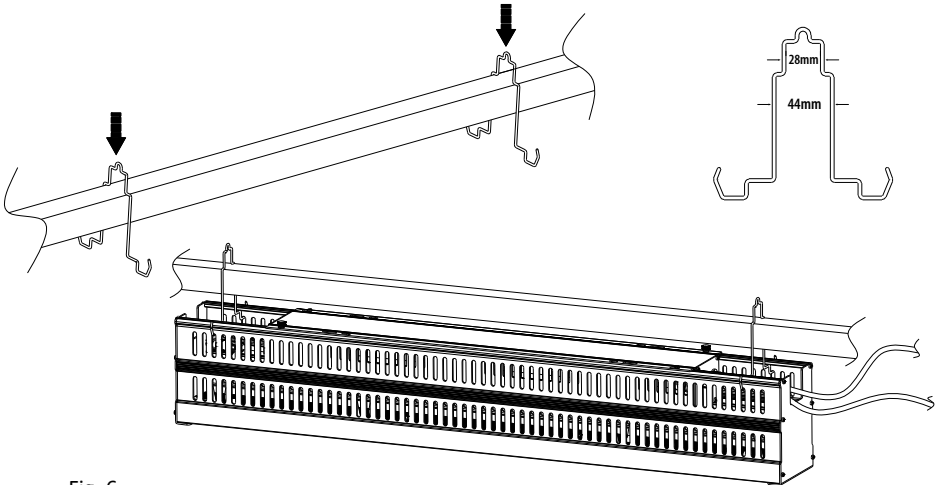

Fig. 6
1) With fixture hanger A (part E), as Fig. 6. Fixture hanger B (Part F) is not compliant for this